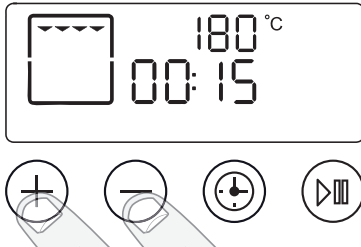

Fig. 5.15
2. The default temperature is 180°C. To adjust the temperature, touch the temperature button then use the [+] or [-] buttons to adjust (**Fig. 5.15**). An audible beep will sound when the grill is up to temperature. The maximum temperature is 200°C and the minimum temperature is 40°C.